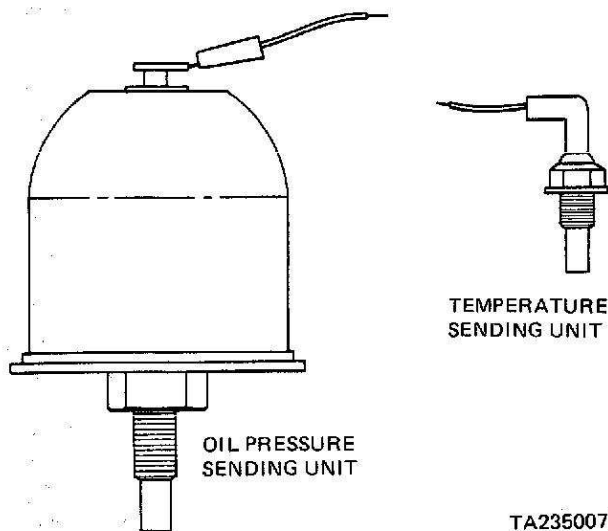

Figure 2-47. Oil Pressure and Temperature Gage Sending Units.
(1) Disconnect the negative (ground) cable at the battery. Then see if both alternator gage connection terminals are tight. Tighten any loose connections, reconnect the battery ground cable, and check for voltage at both gage terminals. Both terminals should have battery voltage; if they do not, or if tightening the connections did not correct the problem, remove the instrument panel gage assembly and replace the alternator gage (paragraph 2-45).
(2) To test a newly installed alternator gage, reconnect the battery ground cable. With the ignition switch turned to OFF, turn the headlights ON. If the gage needle does not move, check and repair the wiring harness between the gage and the battery. If the needle moves toward "C" (charge), the gage terminal connection wires are reversed.
c. *Oil Pressure, Fuel Level, and Temperature Gage Tests.* Before testing the gages, check them for normal operation (TM 9-2320-266-10). If all three gages operate abnormally but the alternator gage keeps working, test the voltage limiter (e, below). If only a single gage has stopped working, use the gage testing procedure below. See figure 2-47.